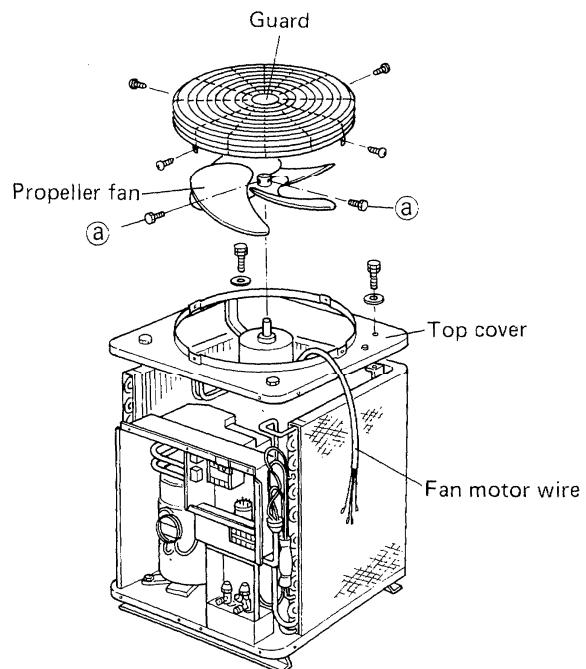

Fig. 14
- 2) Remove the fan motor wire from the electrical component box, and remove the top cover with the fan motor fixed to the top cover. Fig. 14.